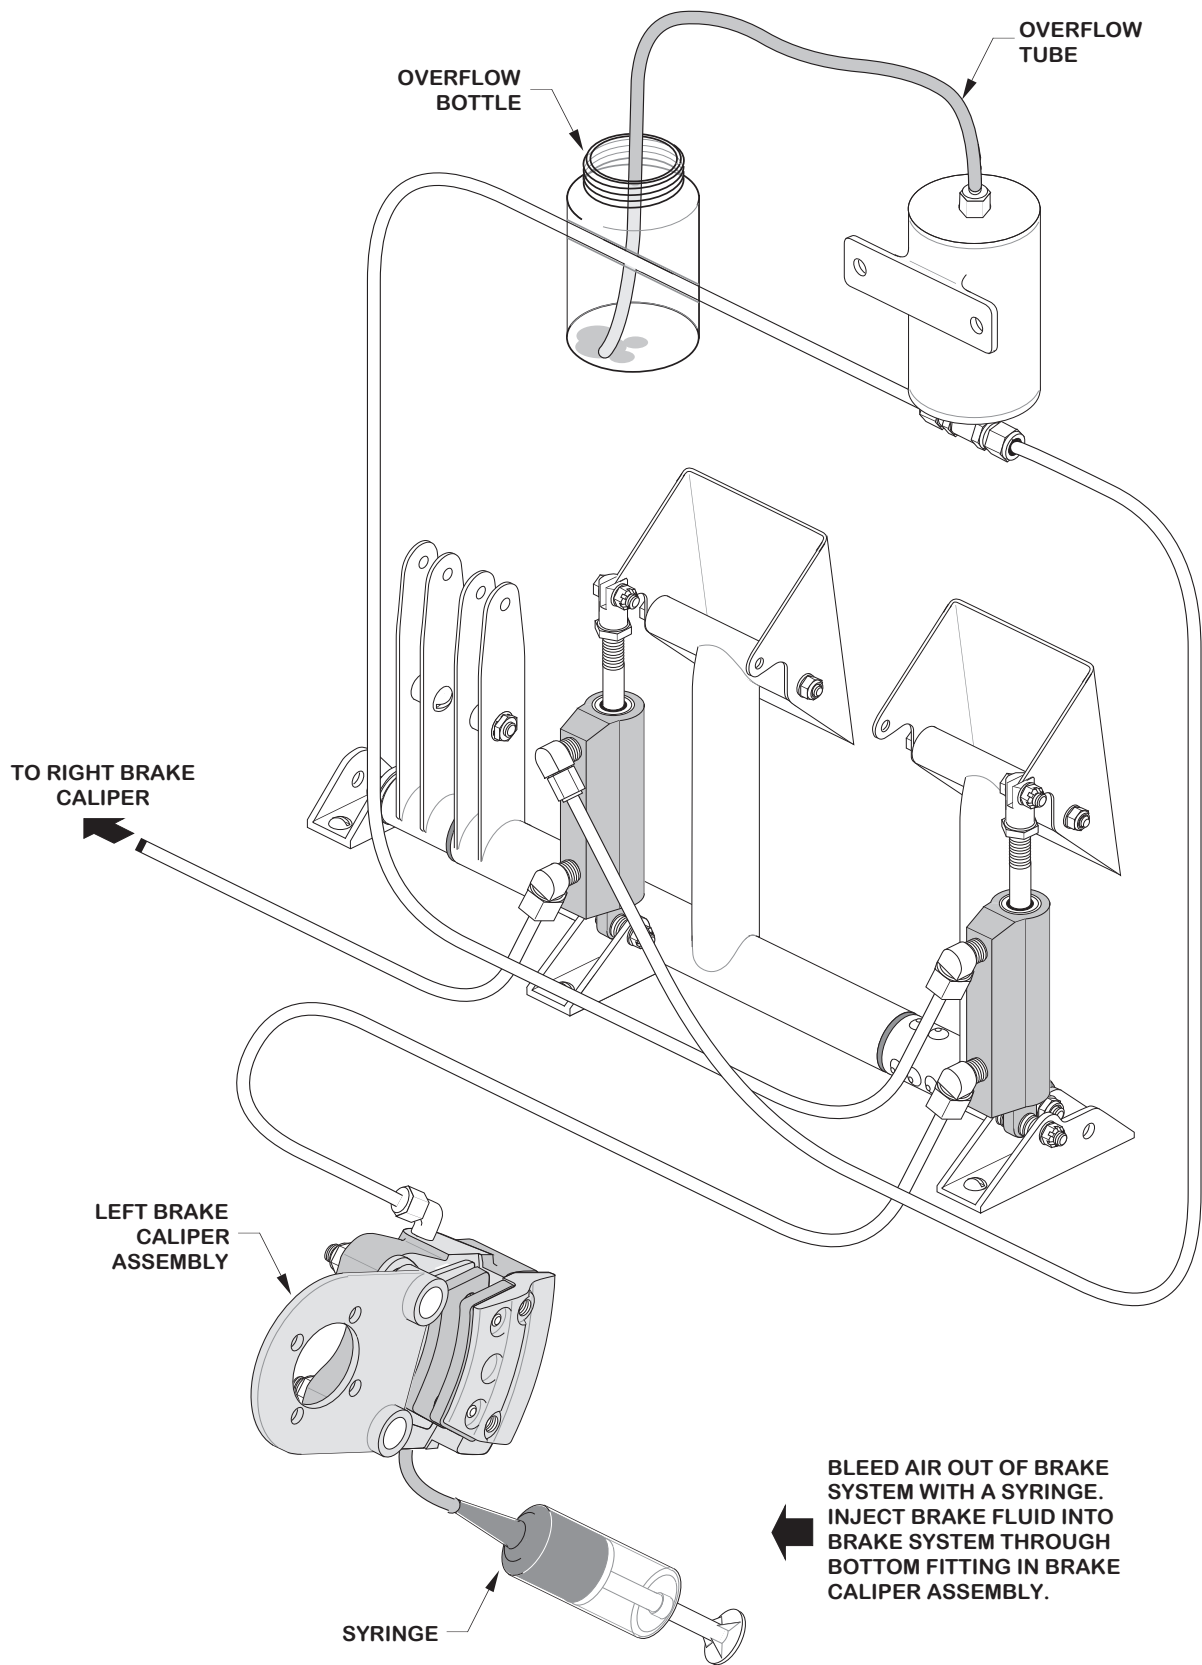

Figure J-6
13. Plumb the brake system in accordance with Figure J-3 if you are installing the dual brake option. Otherwise, refer to Figure J-6 for the standard brake line routing. After connecting the outlet lines from the copilot's master cylinders, route the lines through the center console. Be careful as you pass the lines around the rudder control system, however, to prevent a conflict between the brake lines and the rudder cables (or cable pulleys, if installed). Secure the lines in place where necessary with cable ties.